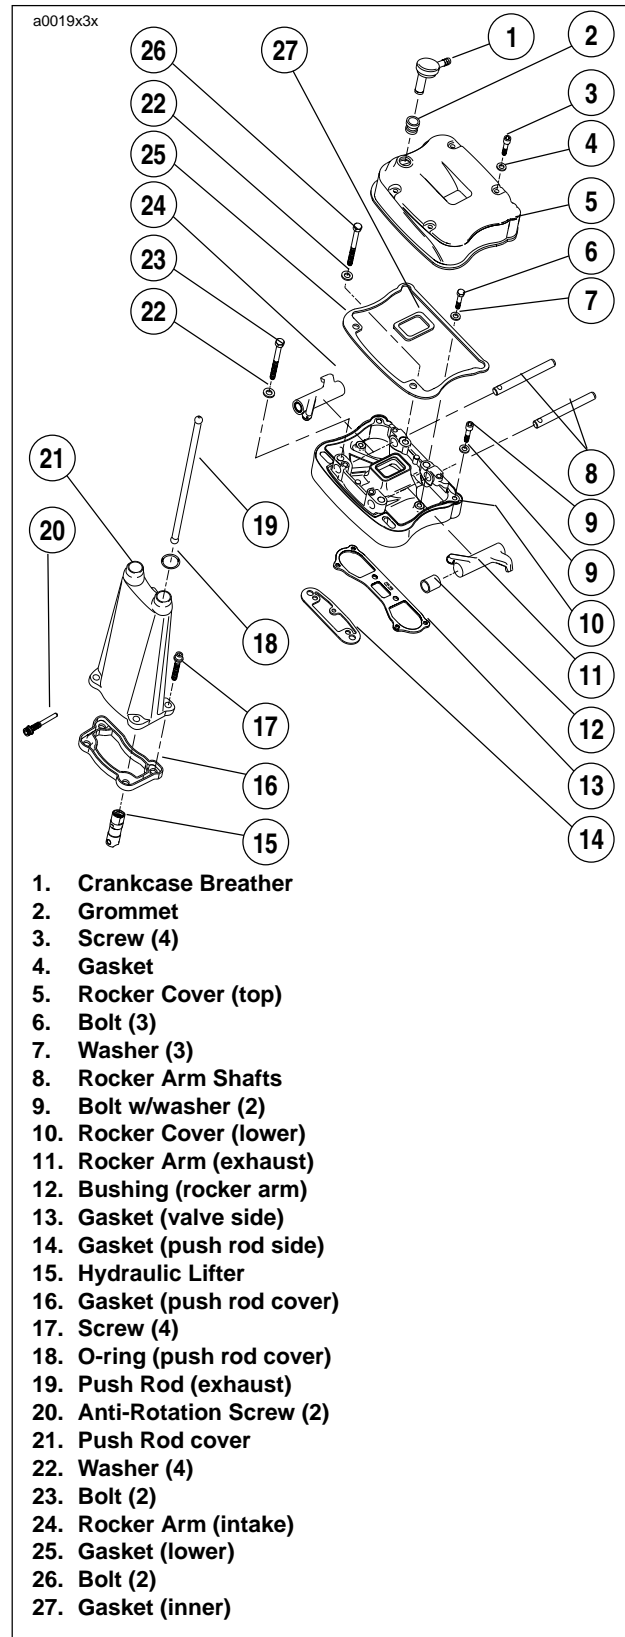

Figure 3-43. Rocker Arm Cover
1. See Figure 3-43. Remove screws with washers and fiber seals. Discard fiber seals.
- See Figure 3-43. Remove lower rocker cover.
- See Figure 3-43. Remove rocker arms; **mark them for reassembly** in their original locations.
- See Figure 3-43. Remove push rod cover, gasket and valve tappets.